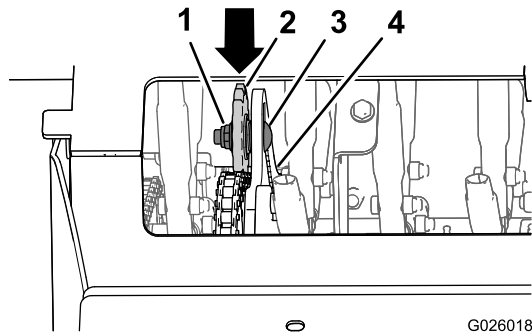

Figure 73
4. Loosen the locknut and carriage bolt that secure the idler sprocket (Figure 73).
- Push down and forward on the sprocket to increase the chain tension as shown in Figure 73.